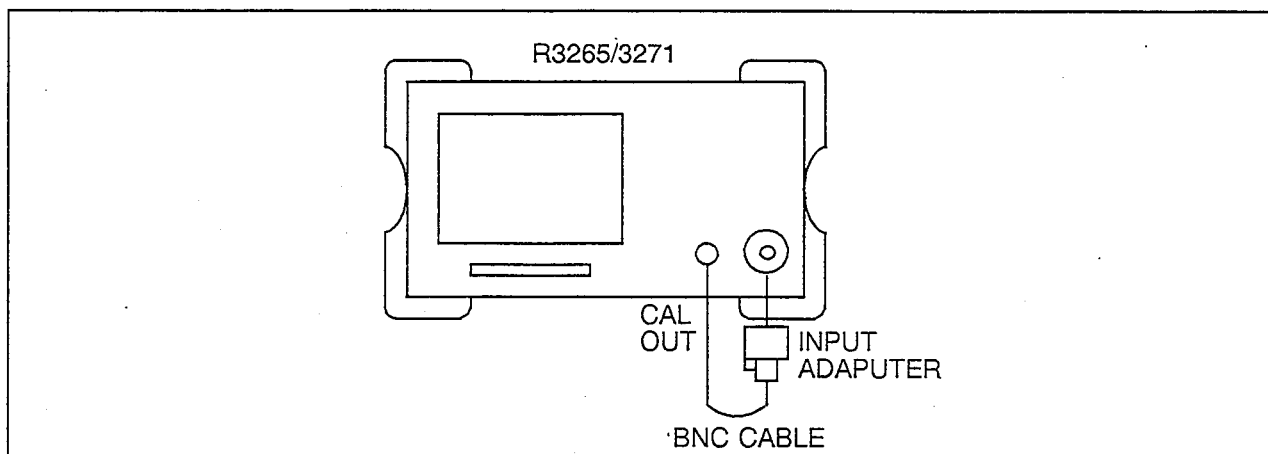

Figure 4-8 Resolution BW Switching Uncertainty Test Setup
(1) Connect the R3265/3271 CALOUT to the INPUT 50 Ω as shown in Figure 4-8.
(2) Press the **PRESET** key, the **SHIFT** key and the ^{CAL}**7** key **EACH ITEM** **RBW SWITCH**.